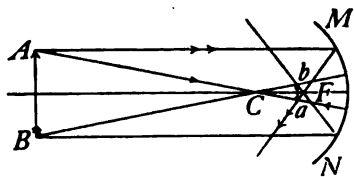

FIG. 360.—Real image formed by a concave mirror.
is a regular concave surface, like the inner surface of a sphere, the rays of light coming from a point source may after reflection come to a focus, forming a real image. The two extreme points of an object should be selected for locating its image; Fig. 360 shows the construction. The real images formed by concave mirrors are always inverted. The principal focus of a concave mirror may be observed by holding the mirror in a beam of sunlight entering a darkened room. The sun's rays after reflection converge to form a small, round, intense spot of light, which is a real image of the sun, located at the principal focus of the mirror. The distance of the principal focus from the mirror is the least distance that a real image can be formed in front of a concave mirror.
**371. Construction of Real Images.**—There are five positions at which an object may be situated in front of a concave mirror, namely: (1) *beyond C*; (2) *at C*; (3) *between C and F*; (4) *at F* and (5) *between F and V*. There are two ways by means of which the image formed at each
of these positions may be located, namely; (1) *experimentally*, by allowing the rays of light from a luminous body to focus on a screen and (2) *diagrammatically*. By the latter method the two rays of light are considered the course of each of which may easily be determined; first, the ray which strikes the mirror parallel to its principal axis and which after reflection passes through the principal focus; second, the ray which passing through the center of curvature strikes the mirror at right angles and therefore after reflection must pass directly back along its incident path. Where these two reflected rays intersect is located the real image of the object. Whenever these two rays of light do actually intersect, as in Fig. 360, a real image ( $ab$ ) is formed of the object  $AB$ .